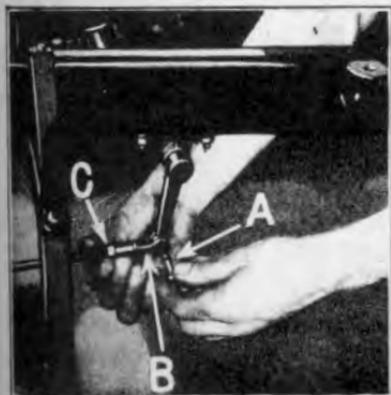

Fig. 73
- (b) Line up holes in shaft and clevis and insert clevis pin (See "A" Fig. 73).